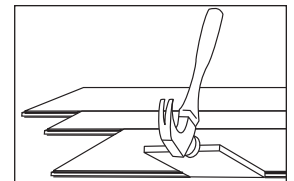

Figure 17
- It may be necessary to align the product with a cut-off piece of scrap as shown (Figure 17 - Keep scrap angle low to avoid edge damage).